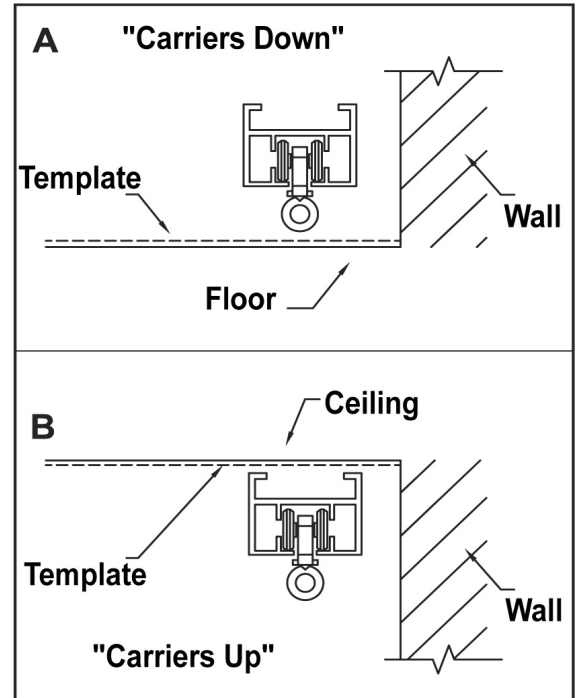

figure 1
6. Indicate whether the template was marked with the track above (A) or below (B) (see fig1). Carrier placement is critical for proper curvature.